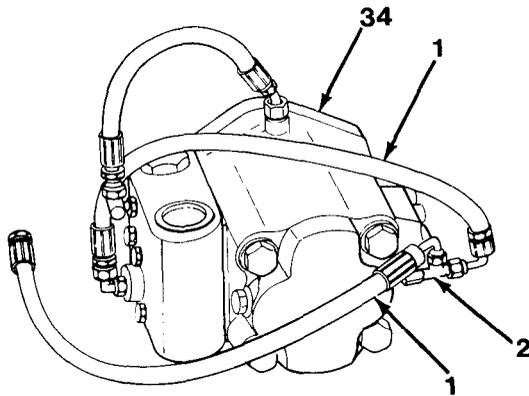

Figure 16-2
18. Install tee (2) and two hoses (1, Figure 16-2).